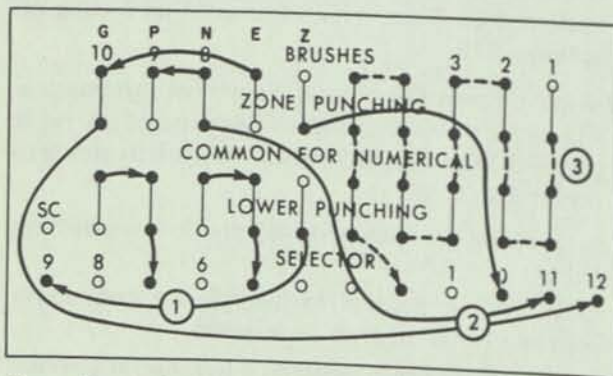

Figure 41. Multiple-Column Selection of Alphabetic Information (82)
Figure 41 shows the control panel wired to reject all cards punched GPNEZ and to sort all other cards into pocket 12.
3. The dotted wires in Figure 41 insure the selection of cards punched GPNEZ and not, for example, GPNEZABLE.